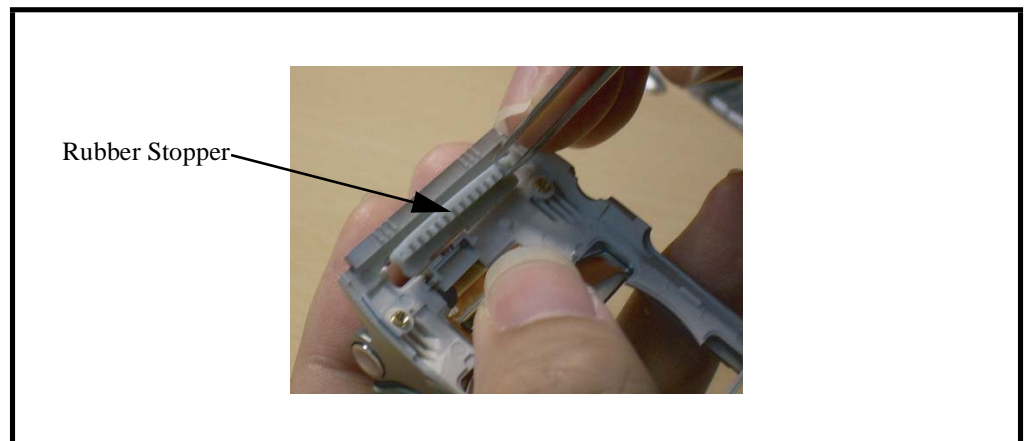

Figure 26. Removing the Rubber Stopper
2. Use a tweezers to remove the rubber stopper from the rear housing as shown in Figure 26.